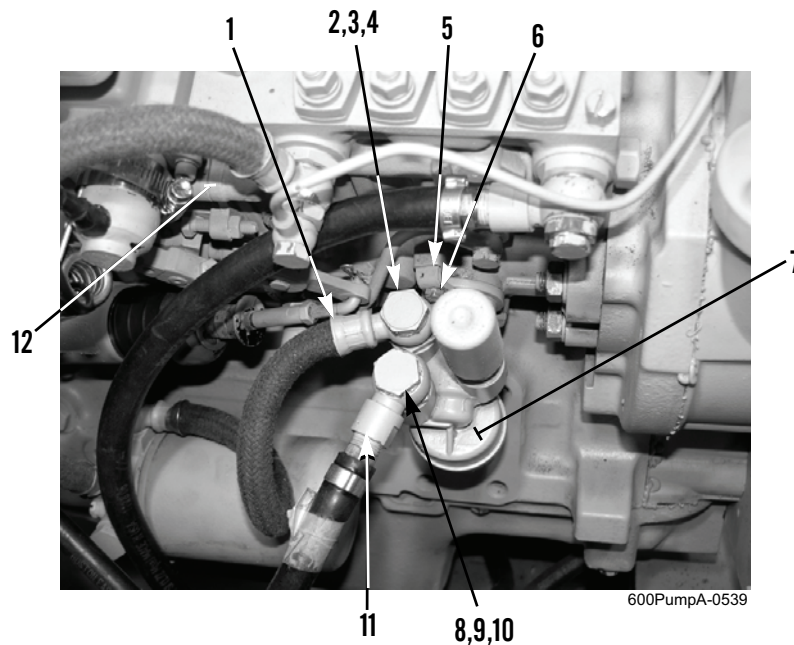

Figure 4. Fuel Pump.
1. Install fuel pump (Figure 4, Item 7) on fuel injection pump (Figure 4, Item 12) with two clamps (Figure 4, Item 5) and bolts (Figure 4, Item 6).
2. Install new sealing washer (Figure 4, Item 10), hose (Figure 4, Item 11), new sealing washer (Figure 4, Item 9), and fluid passage bolt (Figure 4, Item 8) on fuel pump (Figure 4, Item 7).
3. Install new sealing washer (Figure 4, Item 4), hose (Figure 4, Item 1), new sealing washer (Figure 4, Item 3), and fluid passage bolt (Figure 4, Item 2) on fuel pump (Figure 4, Item 7).